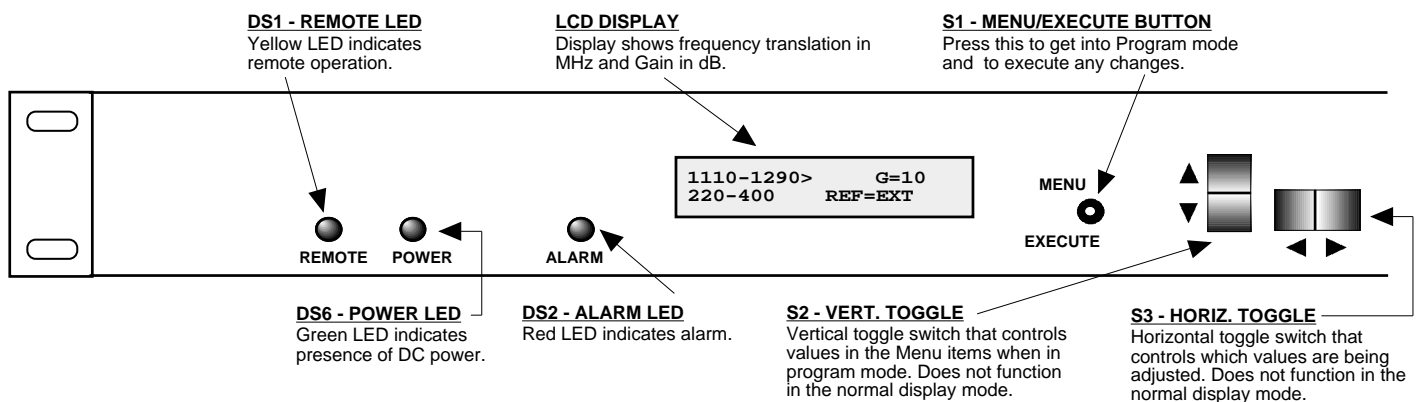

FIGURE 2.2 2083-1304 Front Panel Controls and Indicators
Figure 2.2 shows the front panel controls and indicators.
5. Be sure DS6 (green, DC Power) is on and DS2 (red, Alarm) is off (Figure 2.2).
Alarm indications appear on the LEDs (see Figure 2.2).